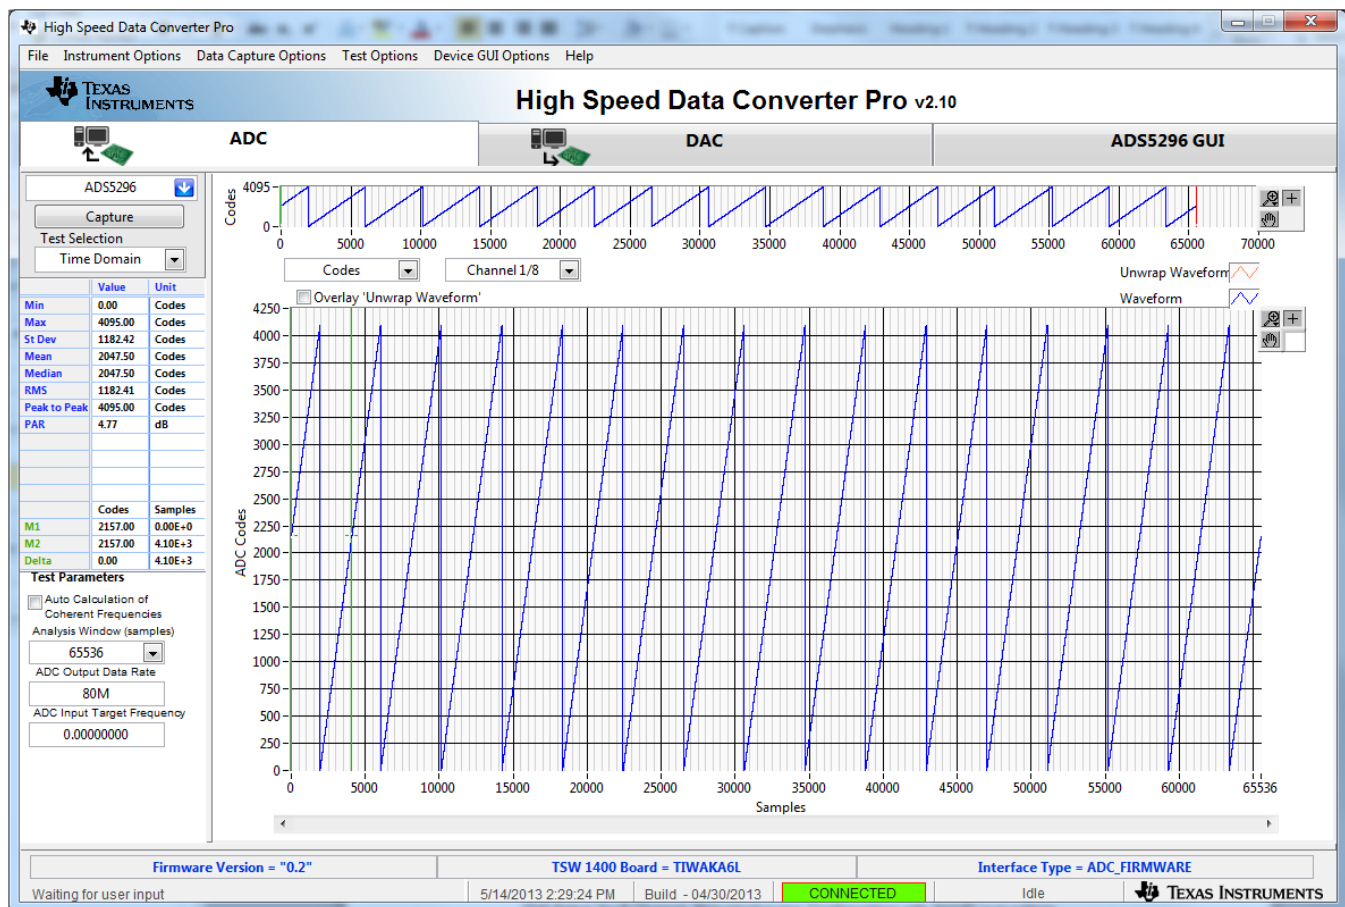

Figure 33. RAMP Capture
- The saw tooth waveform should be captured and displayed as in Figure 33.